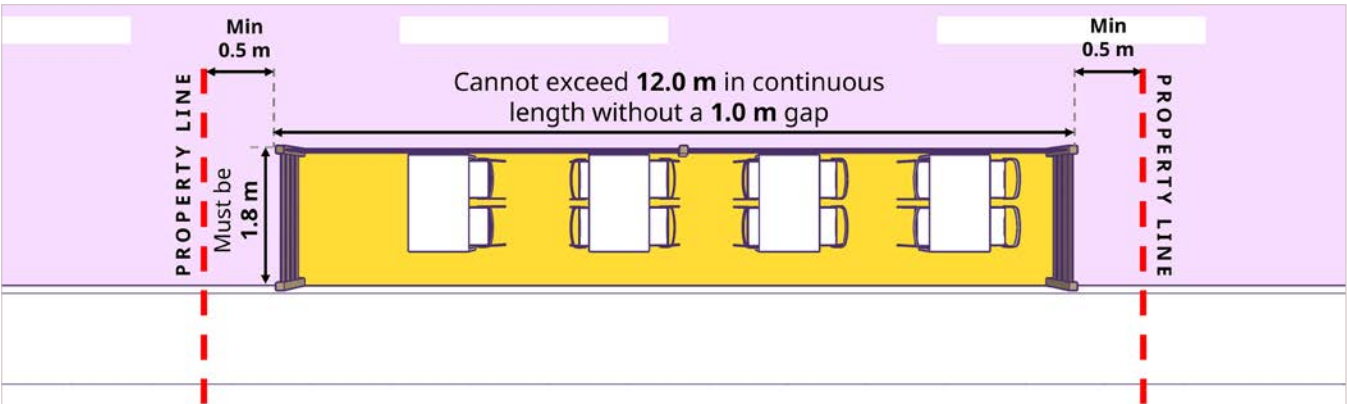

Figure 2: Dimensions of a curbside patio
- a. Patio width must be **1.8 m** from the curb (see Figure 2).
- b. Patio length varies per site conditions, but must not exceed **12.0 m** in continuous length without a **1.0 m** gap to provide emergency access from the road to the building (see Figure 2).
- c. Patio must be minimum **0.5 m** offset from your property line (see Figure 2).